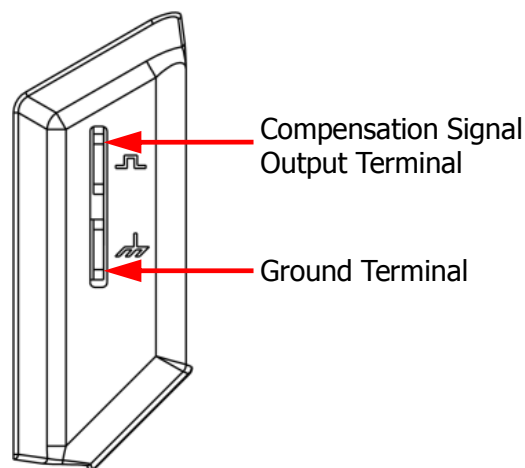

Figure 8 To Use the Compensation Signal
2. Connect the ground alligator clip of the probe to the "Ground Terminal" as shown in Figure 8 below.
3. Use the probe to connect the input terminal of CH1 of the oscilloscope and the "Compensation Signal Output Terminal" of the probe, as shown in Figure 8.